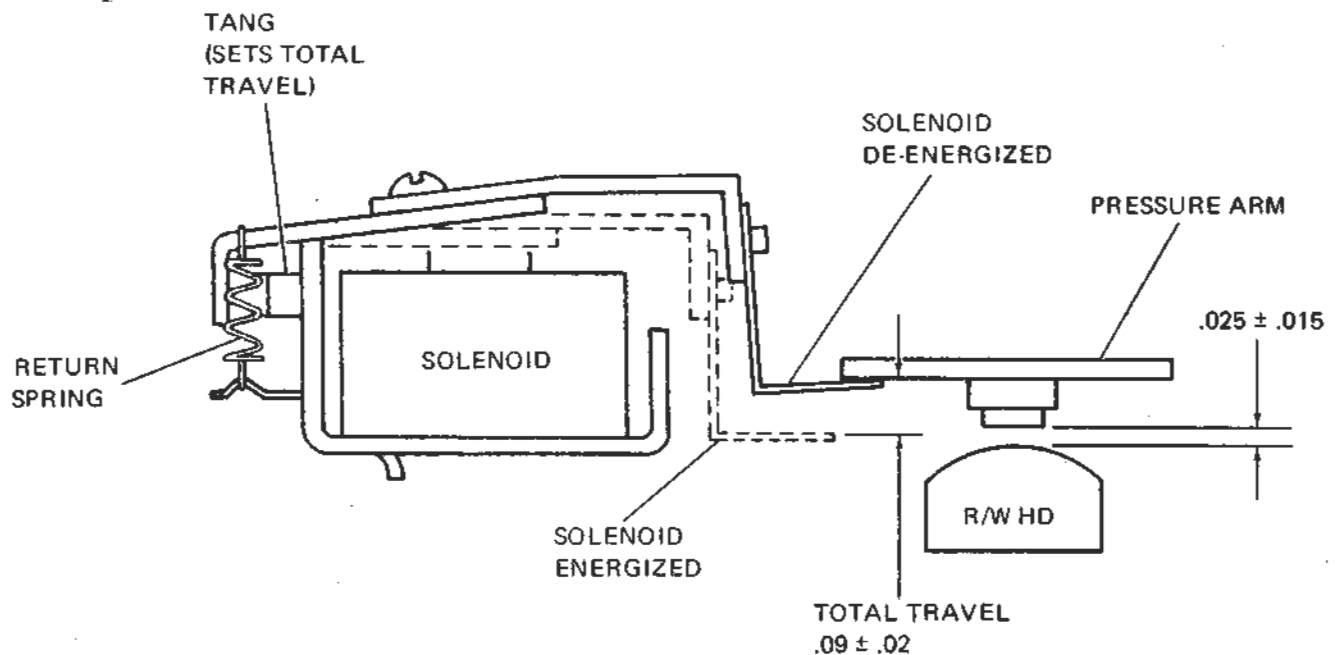

Figure 2-5. Head Load Check and Adjustment (Side 0)
- d. The total displacement of the solenoid lifter paddle should be $.09 \pm .02$ inches at the point where it contacts the pressure arm. (Figure 2-5.)